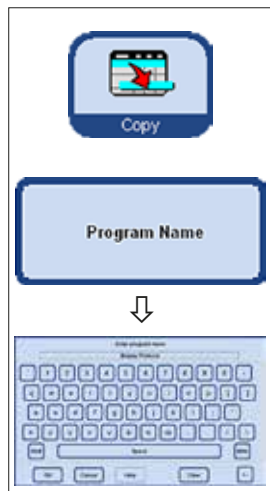

Fig. 159
- Touch the **PROGRAM NAME** button at the top of the table, the keyboard will appear (Fig. 159).